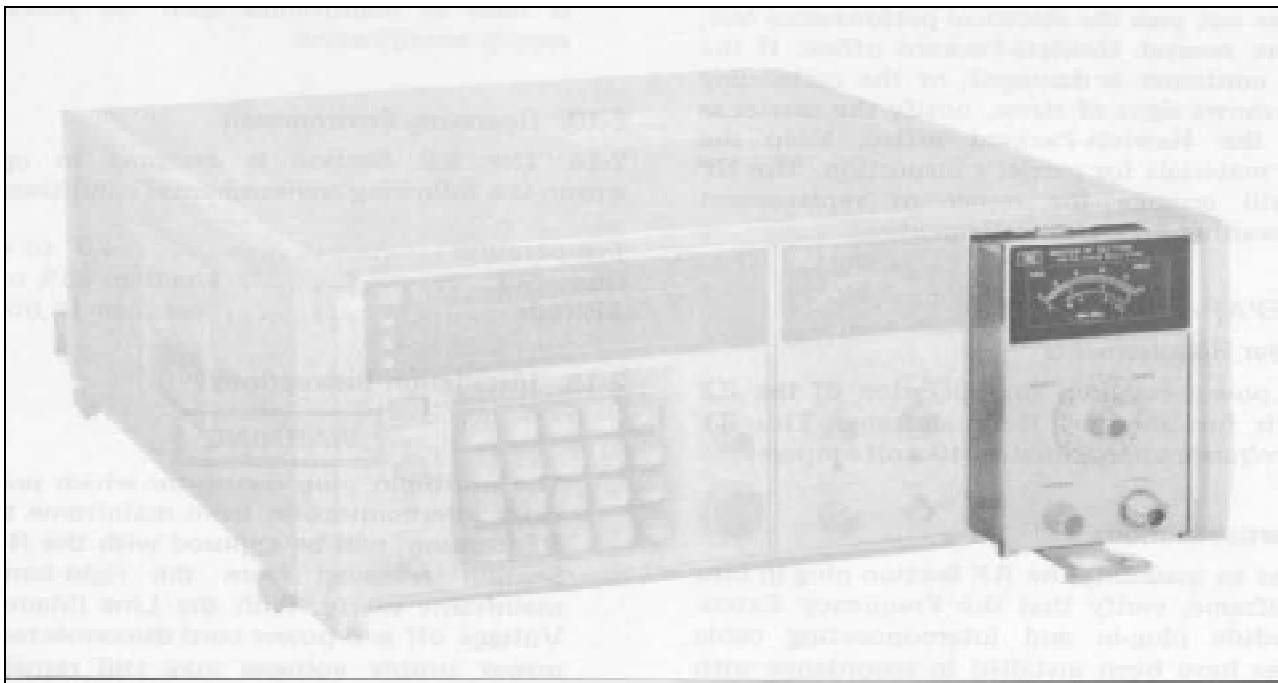

Figure 2-1. RF Section Partially Inserted into Mainframe
2-16. Insert the plug-in approximately half-way into the right cavity of the mainframe. Rotate the latch (lower right corner) to the left until it protrudes perpendicular to the front panel. Refer to Figure 2-1, which shows the plug-in partially inserted into the mainframe and the latch rotated to a position that is perpendicular to the plug-in front panel. Push the plug-in all the way into the mainframe cavity and then rotate the latch to the right until it snaps into position.
**2-21. Original Type Packaging.** Containers and materials identical to those used in factory packaging are available through Hewlett-Packard offices. If the instrument is being returned to Hewlett-Packard for servicing, attach a tag indicating the type of service required, return address, model number, and full serial number. Figure 2-1. RF Section Partially Inserted into Mainframe